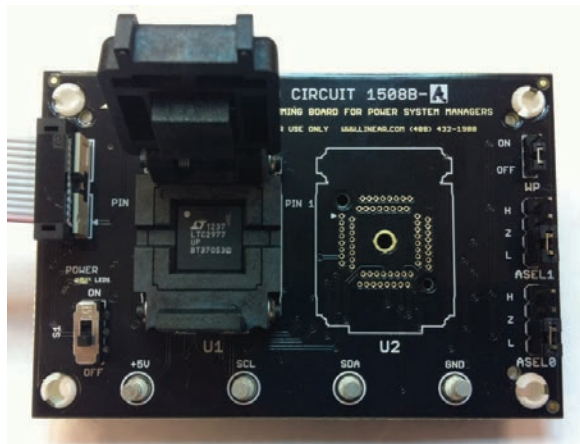

Figure 4. Open Clamshell Lid
3. Open the socket lid. Place the IC inside with pin 1 located in the upper left corner. See Figure 4.